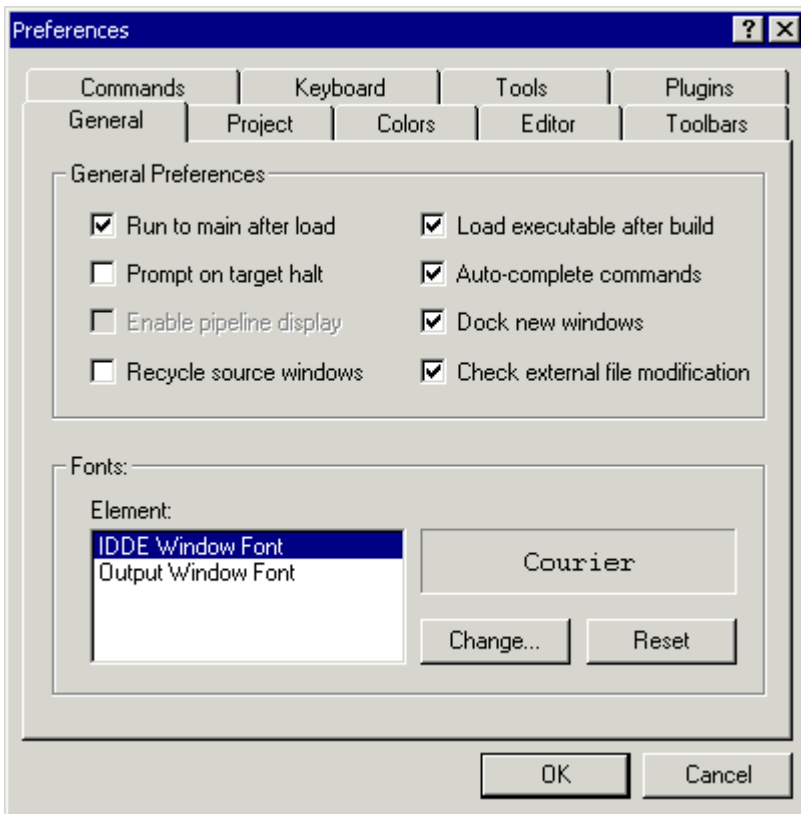

Figure 2-3. Preferences Dialog Box
5. From the **Settings** menu, choose **Preferences** to open the **Preferences** dialog box, shown in Figure 2-3.